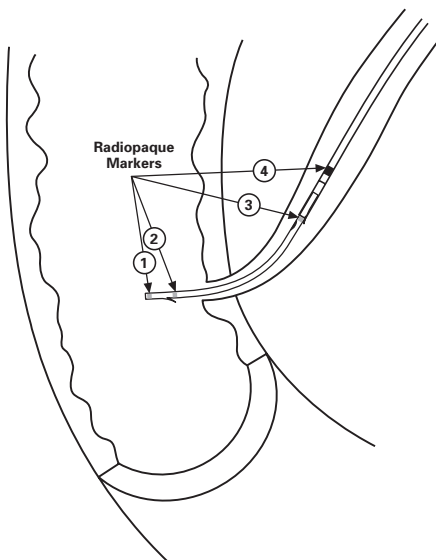

Fig. 3
13. As the stent system is introduced, the surgeon will detect four radiographic markers during fluoroscopic visualization, and the side access port can be used for contrast injection at any time additional visual enhancement is necessary. **(Fig. 3)**
14. The first radiographic marker (1) appears at the distal tip of the inner guide, matching the position of the distal tip of the stent itself.
15. The second marker (2) appears on the inner guide at a position matching the distal flange of the stent, and indicates the proper position of the stent across the ampulla. When this marker is seen in the duodenum, the surgeon is assured that the stent will be deployed across the ampulla, with the distal flange within the duodenum and the proximal flange within the common bile duct.
16. The third marker (3) denotes the position of the proximal flange, to demonstrate the position of both flanges to the surgeon before deployment. This marker should be kept above the ampulla to avoid deployment of the stent in a position that is too low in the bile duct.
17. The fourth marker (4) is the largest, and represents the distal tip of the stent backstop (c), against which deployment occurs.